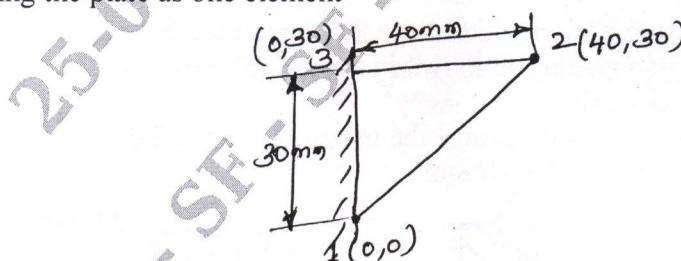

Fig Q3(b)
b. For the triangular plate shown in Fig Q3(b) below, compute the strain displacement matrix considering the plate as one element